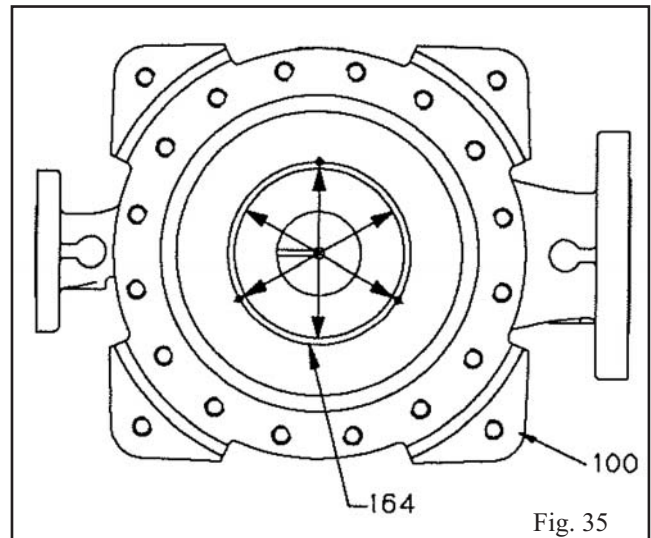

Fig. 35
- Check casing wear ring (164) runout / distortion by measuring bore at each set screw location with inside micrometers or vernier calipers (Fig. 35). Any distortion in excess of 0.08 mm (.003 in.) should be corrected by machining prior to trimming new impeller wear rings (202 and 203).
- Measure bore of casing wear ring (164) to establish the required impeller wear ring (202) diameter to provide the recommended running clearances as indicated in Table 6 and subsequent note.
- Repeat steps 7 and 8 for the seal chamber wear ring (230).
- Turn impeller wear rings (202 and 203) to size after mounting on impeller (101).